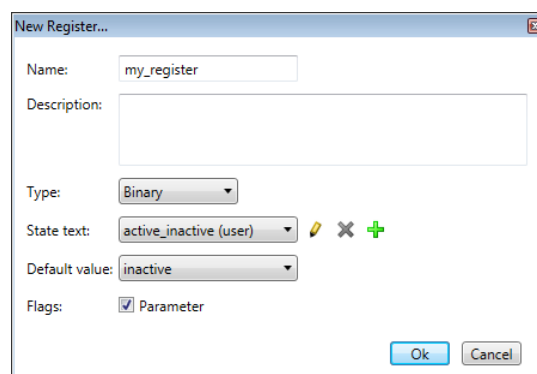

Figure 126: New LWEB-900 Server User Register
1. Right click on the folder **System/User Registers** and select **New → New Register...** from the context menu. This opens the register creation dialog as shown in Figure 126.